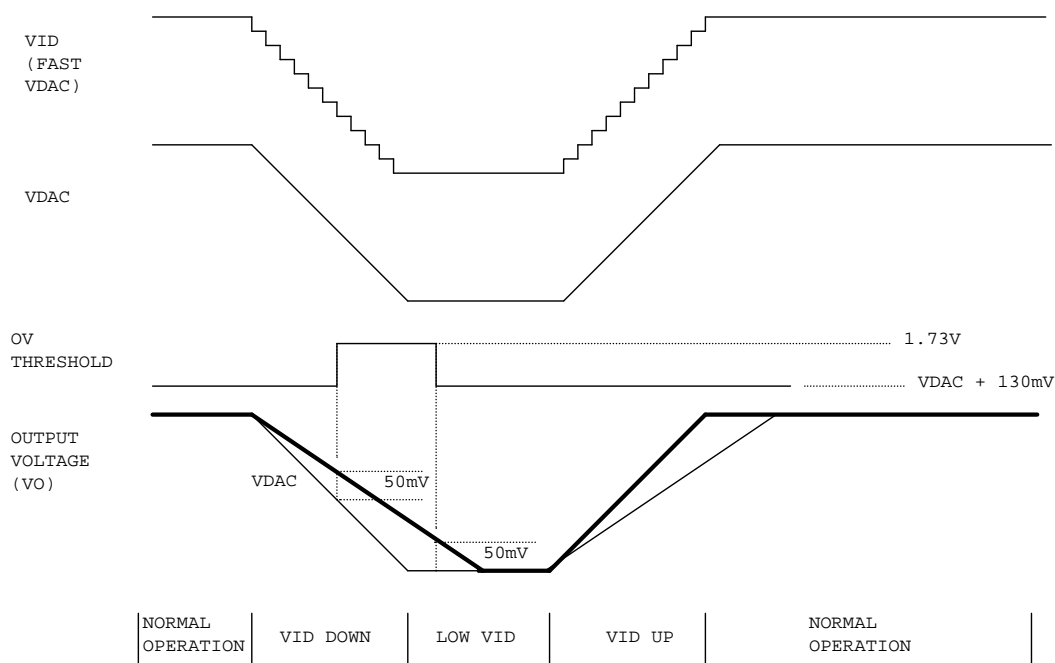

Figure 17 Over-voltage protection during dynamic VID
If either remote sense line VOSEN+ or VOSEN- or both are open, the output of remote sense amplifier (VO) drops. The IR3502B monitors VO pin voltage continuously. If VO voltage is lower than 200 mV, two separate pulse currents are applied to VOSEN+ and VOSEN- pins respectively to check if the sense lines are open. If VOSEN+ is open, a voltage higher than 90% of V(VCCL) will be present at VOSEN+ pin and the output of open line detect comparator will be high. If VOSEN- is open, a voltage higher than 700mV will be present at VOSEN- pin and the output of open-line-detect comparator will be high. The open sense line fault latch is set, which pulls error amplifier output low immediately and shut down the converter. The SS/DEL voltage is discharged and the fault latch can only be reset by cycling VCCL power. During dynamic VID down, OVP may be triggered when output voltage can not follow VDAC voltage change at light load with large output capacitance. Therefore, over-voltage threshold is raised to 1.73V from VDAC+130mV whenever dynamic VID is detected and the difference between output voltage and VDAC is more than 50mV, as shown in Figure 17. The over-voltage threshold is changed back to VDAC+130mV if the difference is smaller than 50mV.